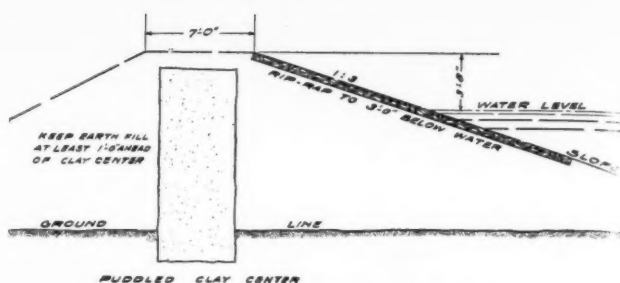

FIG. 2.—Section of dam with puddled clay center
7. Frost heaving in profiles C and E (fig. 2) may be prevented by drainage. In order to eliminate detrimental frost action under the conditions represented by the remainder of the profiles, the frost heaving soils should be excavated (or grade line raised) and selected material placed beneath the surfacing. The type of treatment should be governed by the permanence of the surfacing and the traffic requirements.